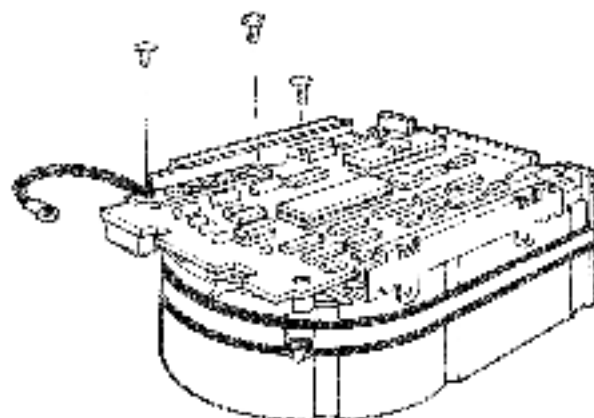

Figure 8-14 Removal of Philips Screws from Heat Sink
5. Remove the three Phillips screws from the heatsink, the grounding strip, and the cover opposite the heatsink (Figure 8-14).